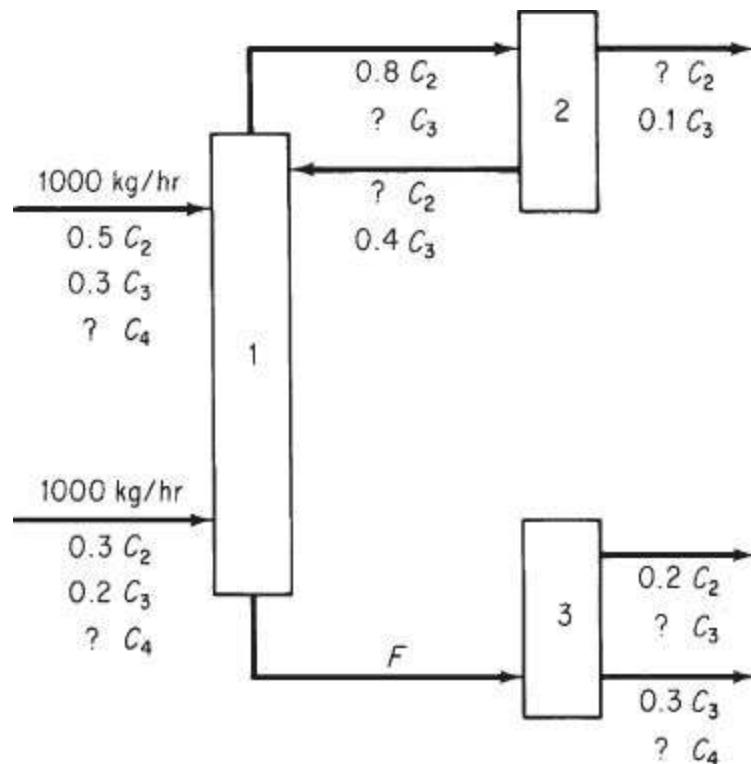

Figure P6.1.5
**6.1.5. A distillation process is shown in Figure P6.1.5. You are asked to solve for all of the